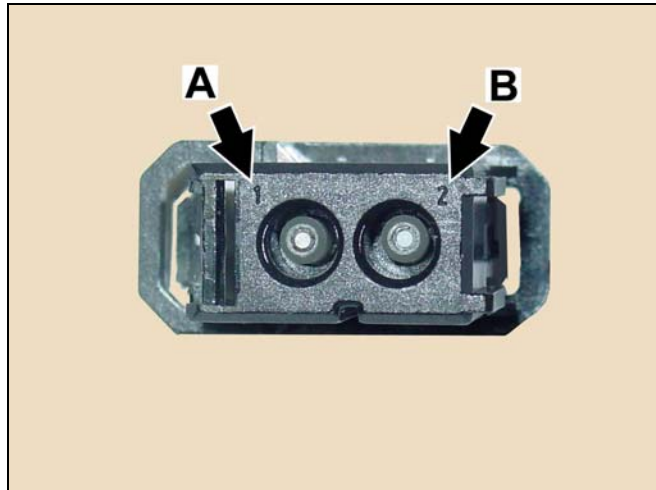

Figure 21
- Remove the fiber labeled “SOUND” from slot 2 (B, Figure 21) of the MOST connector and insert the fiber labeled “SOUND 2” in its place